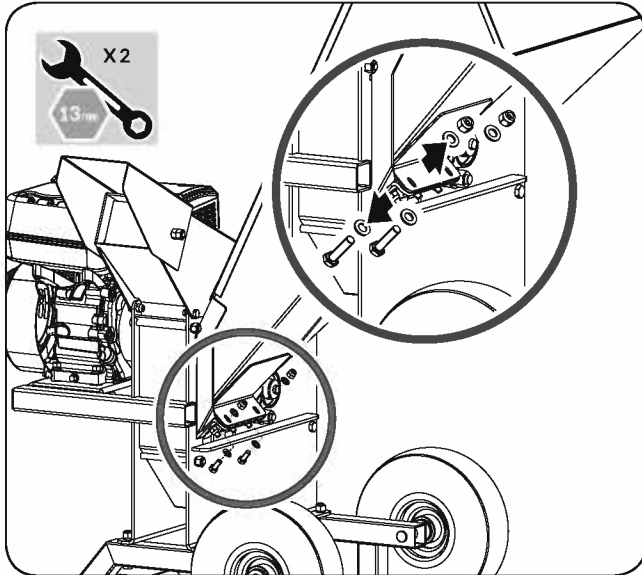

Figure 13
1. Remove the feed hopper. (See **Figure 13**)
- Remove the feed hopper. (See **Figure 13**)